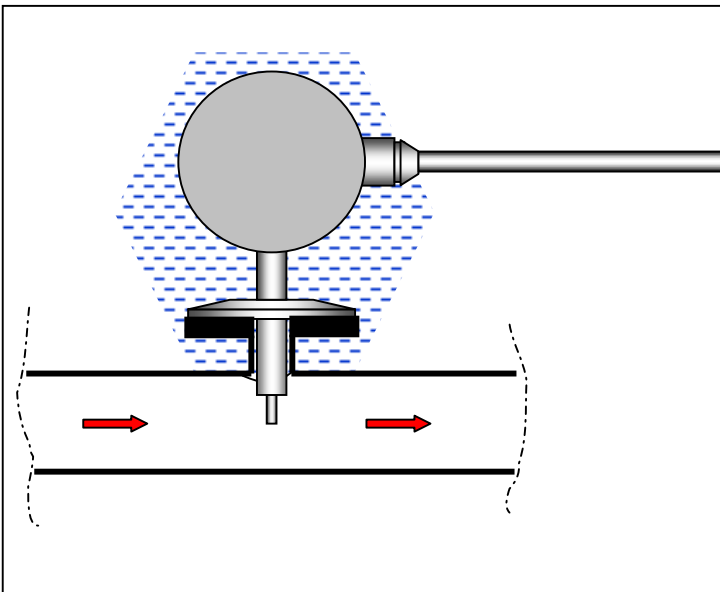

Fig. 3
5. If the sensor is normally insulated in the process, it should also be insulated in a similar way during the calibration to secure the same thermal conditions. (See fig. 3).